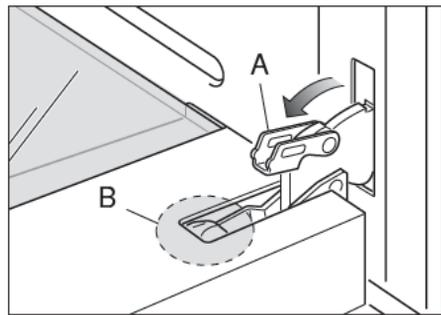
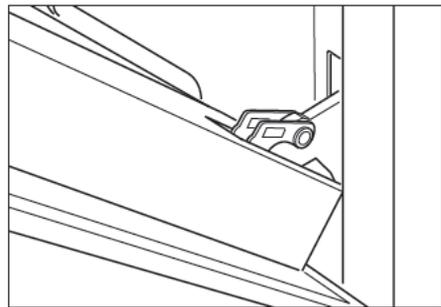

Fig.23b
Fig.23c
- Fully open the oven door (Fig. 23b).
- Fully open the lever "A" on the left and right hinges, (Fig. 23b).
- Gently close the door (Fig. 23c) until the left and right hinges are hooked to part "B" of the door (Fig. 23b).